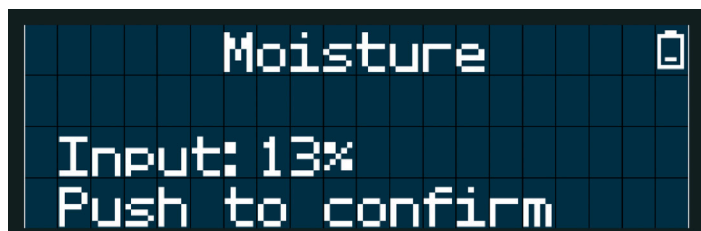

Figure 10. Moisture content recording process using STRIKE
6. Once inserted, press the **Read** button and record the VWC% as prompted by the STRIKE (Figure 10);